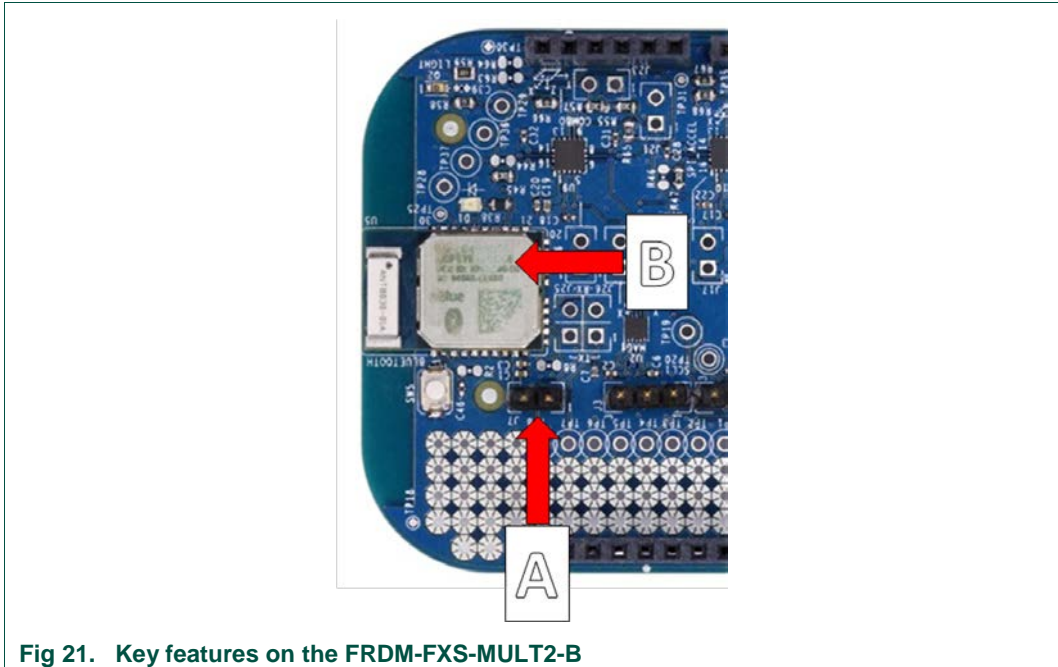

Fig 21. Key features on the FRDM-FXS-MULT2-B
5. Power up your sensor board. Ensure that the power jumper next to the Bluetooth module is installed (“A” in Fig 21).
6. FRDM-FXS-MULTI-B and FRDM-FXS-MULT2-B boards utilize Bluetooth modules from BlueRadios. Note the last six digits on the second line of the radio module (“B” in Fig 21).